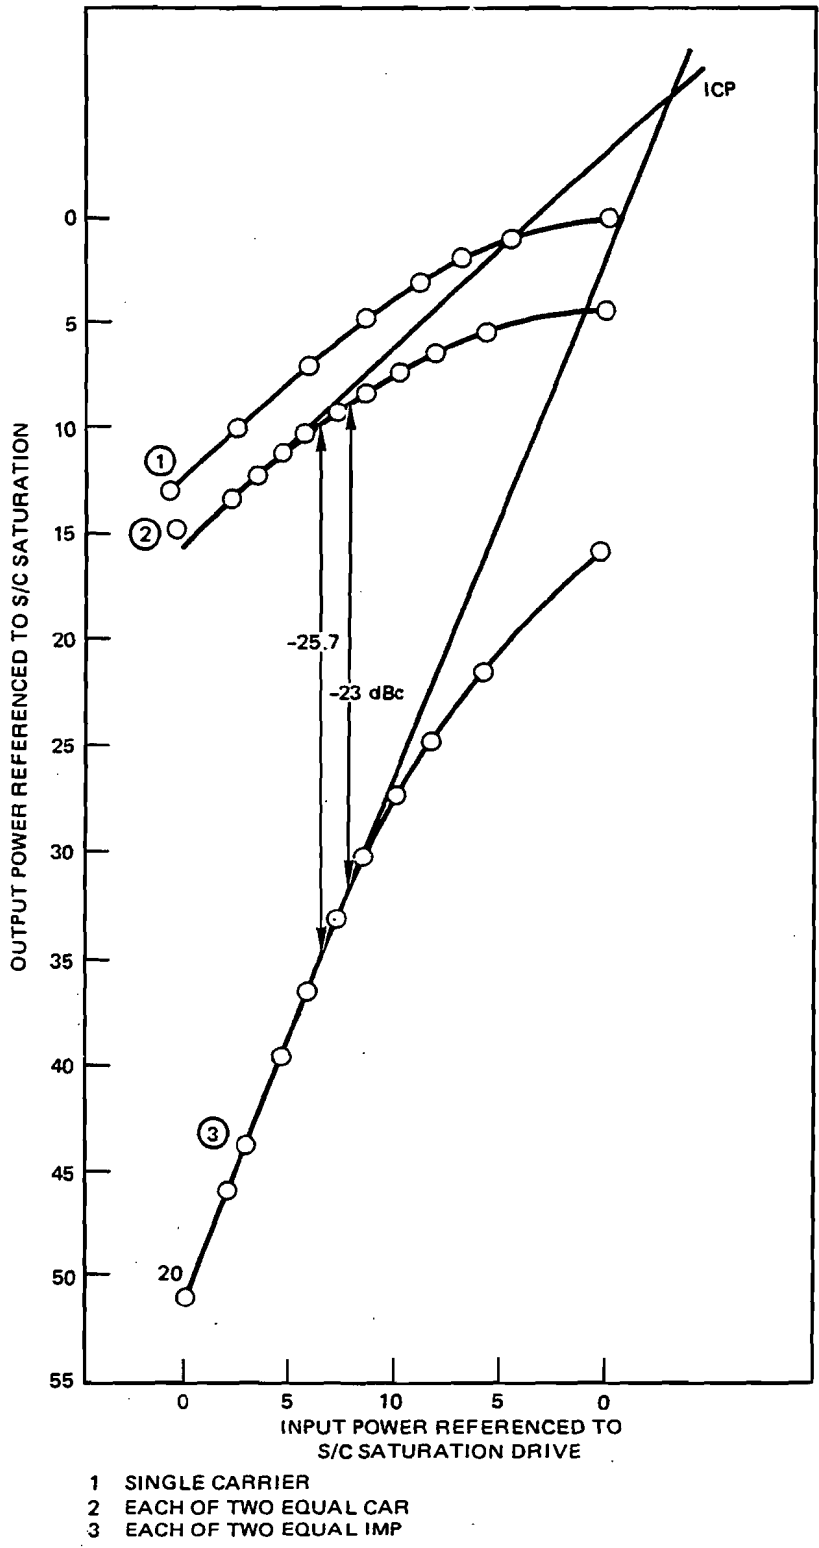

Figure 2.7-2 Typical third-order product curve.
When amplifying multiple carriers, intermodulation (IM) products will occur with levels dependent on the region of operation. Because their frequency placement comes closest to the desired carriers, third order products are of greatest concern. Figure 2.7-2 shows a typical third-order IM product curve. Note that, in the linear gain region, a change of 1 dB in RF output causes a 3-dB change in the third-order IM product level. In addition, note that the RF output power is distributed among the carriers and their IM products. Therefore, if the saturated output power for a single carrier is 20 watts, and the TWTA is driven to saturation by two carriers, the output of each amplified carrier will be somewhat less than 10 watts because of the power absorbed in generation of the IM products. The intercept point is typically 5 dB greater than the rated single carrier power output.